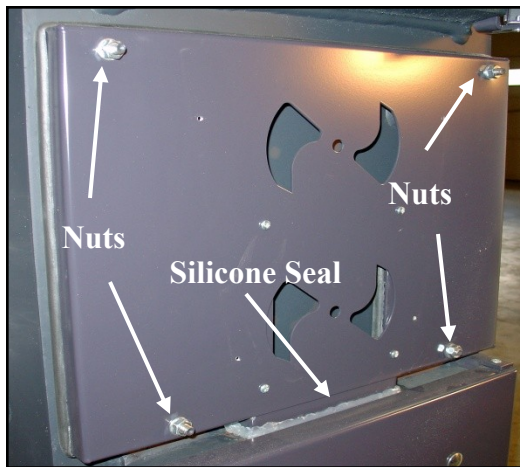

Fig. 4.12 Diffuser Panel (Air Controls not Shown)
1. Remove the diffuser which is located between the loading and ash doors (**Fig.4.12**). This is performed by removing the 4 corner nuts and carefully breaking the silicone seal on bottom of diffuser.